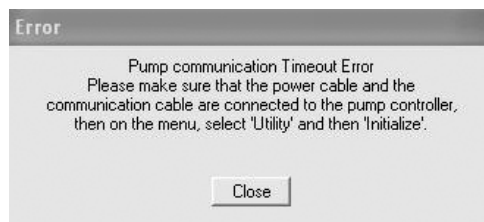

Figure 6: Initialization error message
2. If the error message in **Figure 6** appears, close the window, then check that all the connectors are completely plugged in and make sure all the dip switches on the controller are in the "up" position. Repeat Step 1.